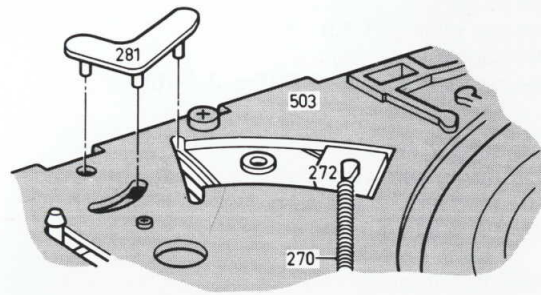

Fig. 3-1-24
- Unlock the cover pos. 282, at the right-hand and left-hand side (Fig. 3-1-24).